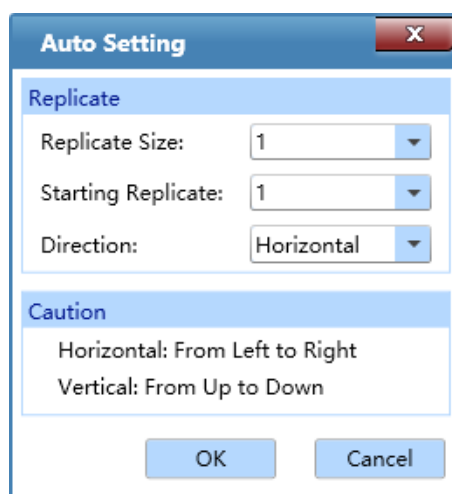

Figure D-6.6. Sample Setting Interface - Auto Setting
- The application software can automatically divide multiple replicate groups according to user' requirements. Please first select all wells of same samples in the sample setting area and click < **Auto Setting** >; then the auto setting dialog box will pop up automatically, as shown in figure D-6.6.